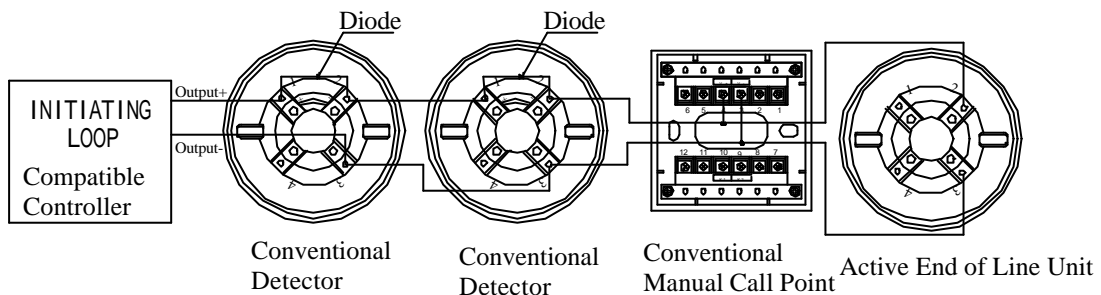

Fig. 7 System application
- b) When the active end of line unit is not used as a detector base, system application is shown in Fig. 7.